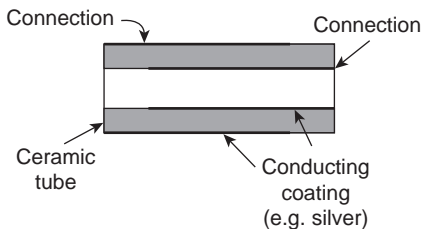
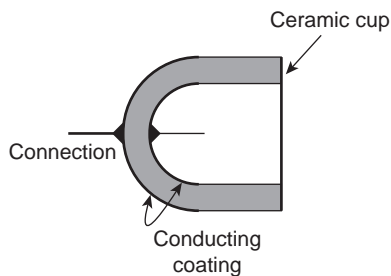
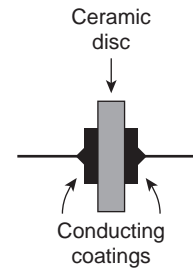

Figure 8.19
Figure 8.20
Figure 8.21
4. **Ceramic capacitors.** These are made in various forms, each type of construction depending on the value of capacitance required. For high values, a tube of ceramic material is used as shown in Fig. 8.19. For smaller values the cup construction is used as shown in Fig. 8.20, and for still smaller values the disc construction shown in Fig. 8.21 is used. Certain ceramic materials have a very high permittivity and this enables capacitors of high capacitance to be made which are of small physical size with a high working voltage rating. Ceramic capacitors are available in the range 1pF to 0.1 μ F and may be used in high-frequency electronic circuits subject to a wide range of temperatures.